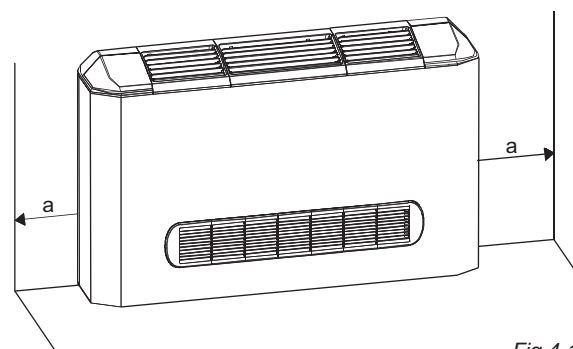
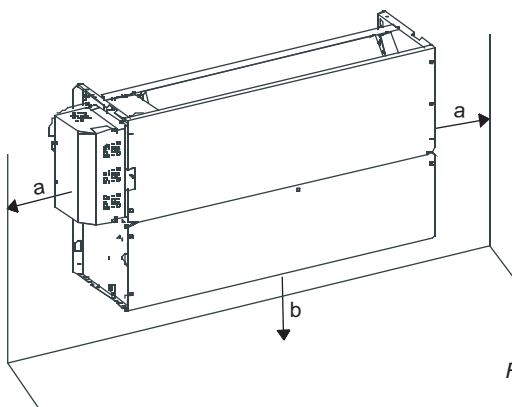

Fig.4-1
Fig.4-5
4.1 The units may be mounted vertically ,provided that the correct clearances for positioning are maintained. (Refer to Fig. 4-1~Fig.4-5)